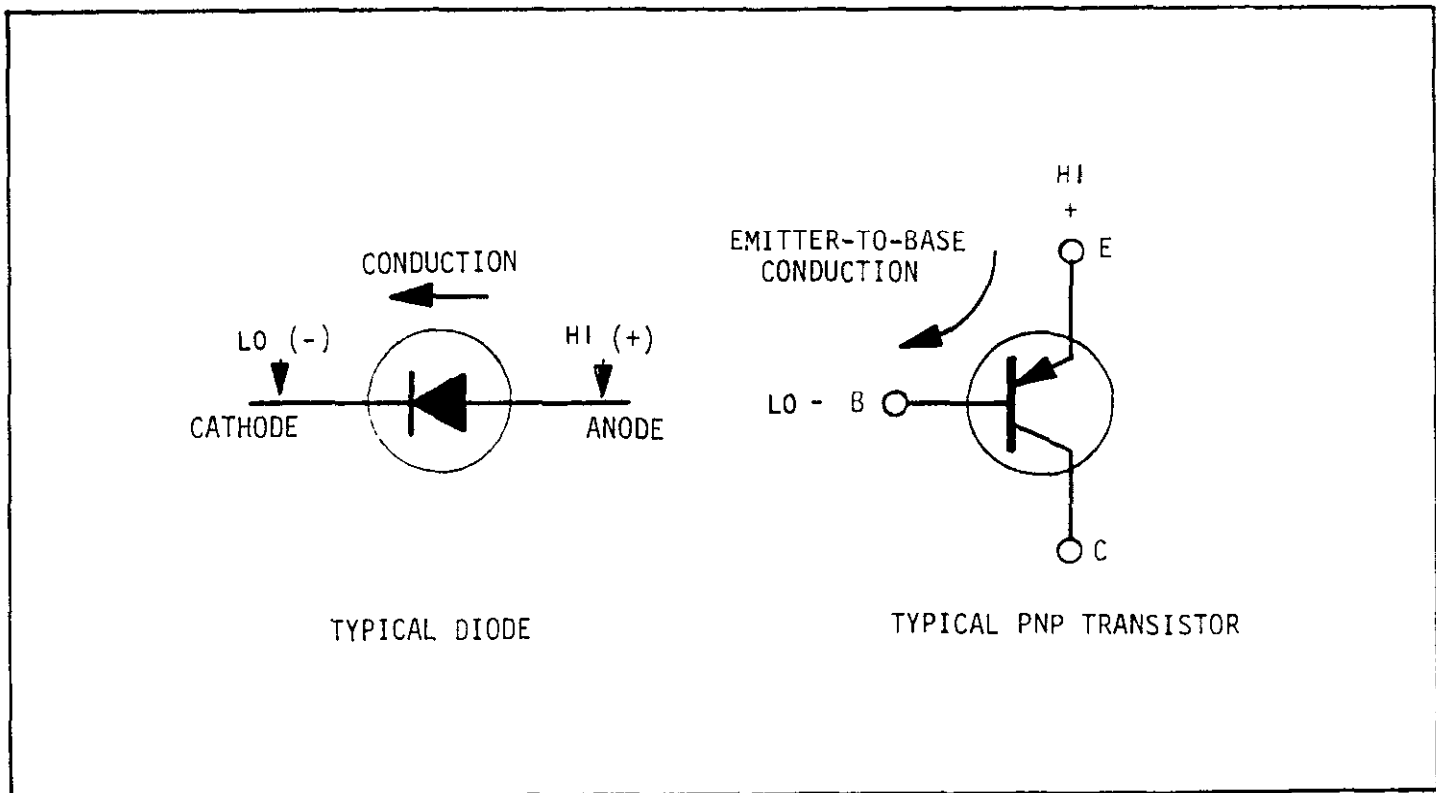

FIGURE 3-6. Semiconductor Diode and Transistor Testing.
5. Semiconductor Diode and Transistor Testing. The Model 172A/173A can be used to test diodes and transistors to determine the relative condition of the device. For semiconductor diodes, the voltage applied must be sufficient to cause conduction in the forward direction. The "HI OHMS" mode provides a voltage up to 3 volts at a current upto 1 milliampere. Since the HI terminal is positive with respect to LO terminal, connections should be made as shown in Figure 3-6 to cause forward conduction of diodes. Since the maximum current is available on the 3 K $\Omega$  range, depress AUTO/MAN (Set to MAN) and manually range to the 3 K $\Omega$  range (down-range).